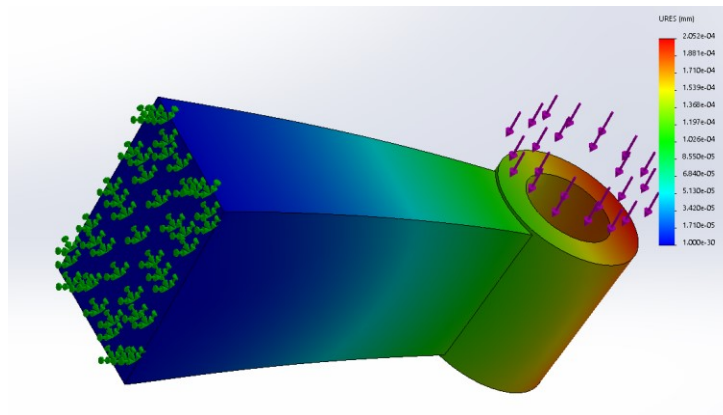

Figure 6
6. When the study is done running, double-click on *Displacement1 (-Res disp-)*. From here you can see the max displacement of the part (in Figure 6, this value is  $2.052e-04$  mm).
7. Take a similar screenshot of your model (as shown in Figure 6) and include it in your HW10 submission with a brief caption.
12. Take another screen shot similar to Figure 6 of your model and include it in your HW10 submission with a brief caption.